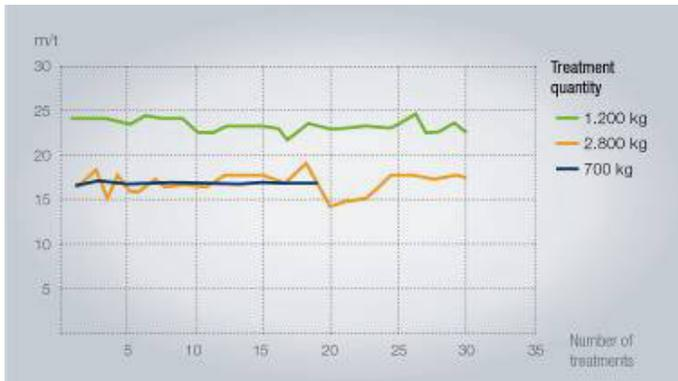

Figure 11: Wire consumption in m per metric ton
- Lower material usage (Figures 11 and 12) and low treatment costs.